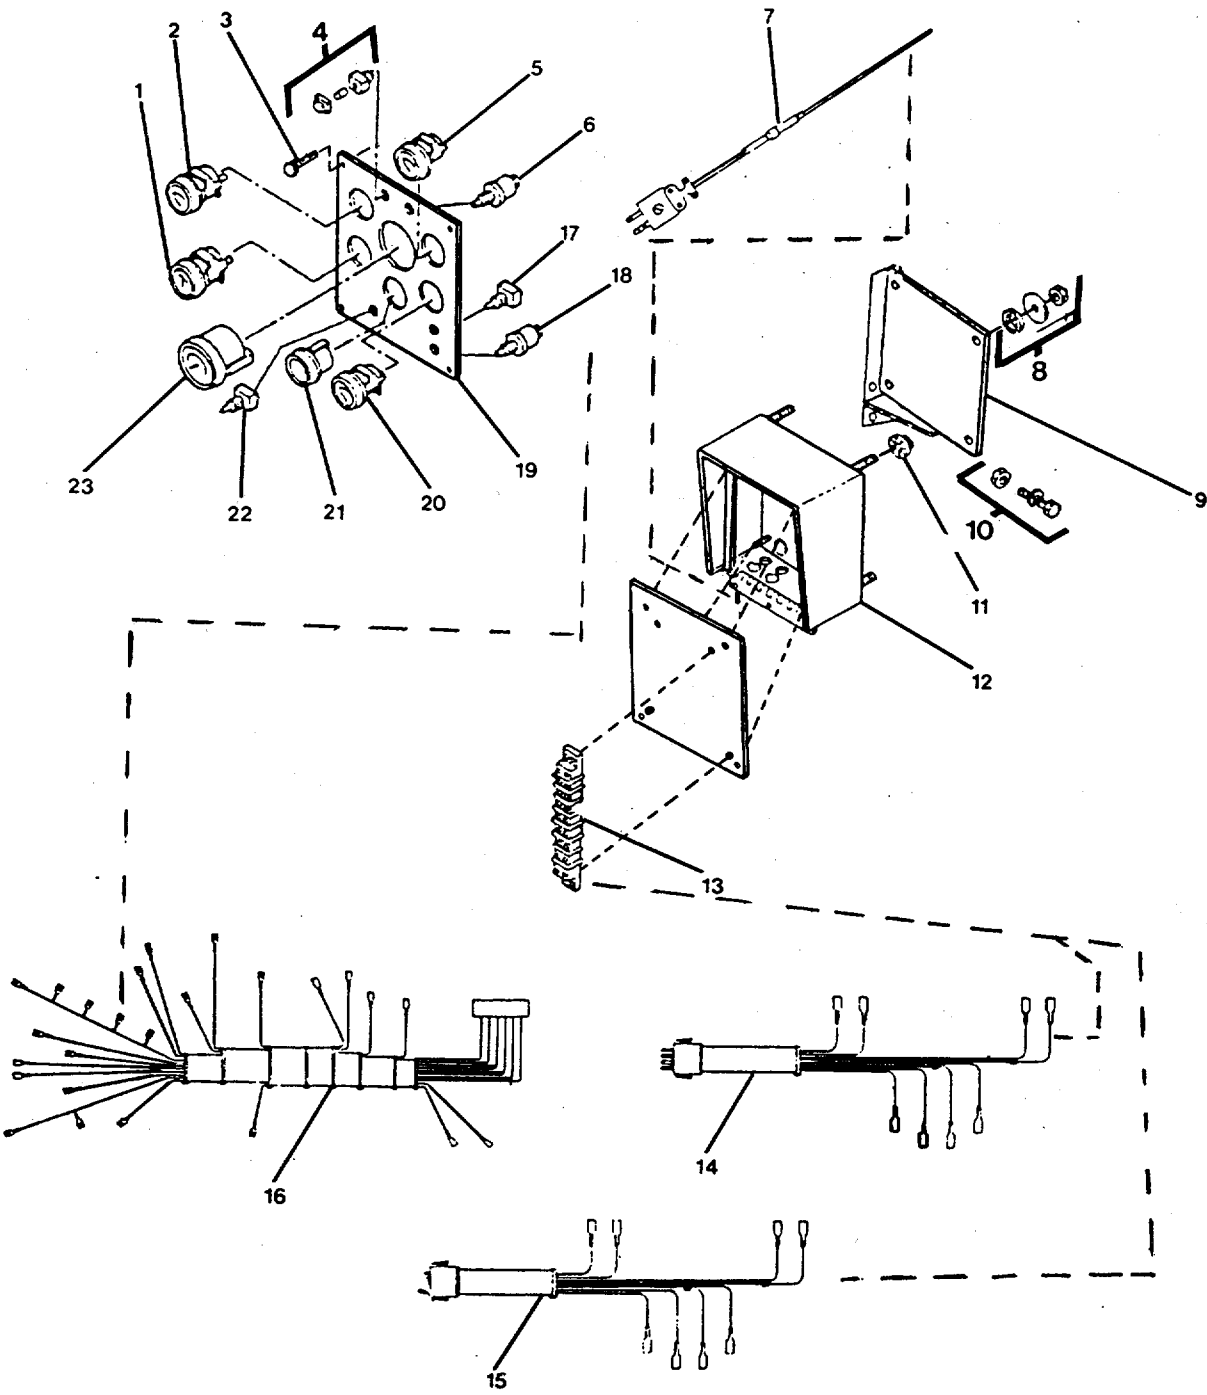

FIGURE 2-12. Instrument Panel Group.
**2-21. Replace/Repair Instrument Panel Group. (FIGURE 2-12)**